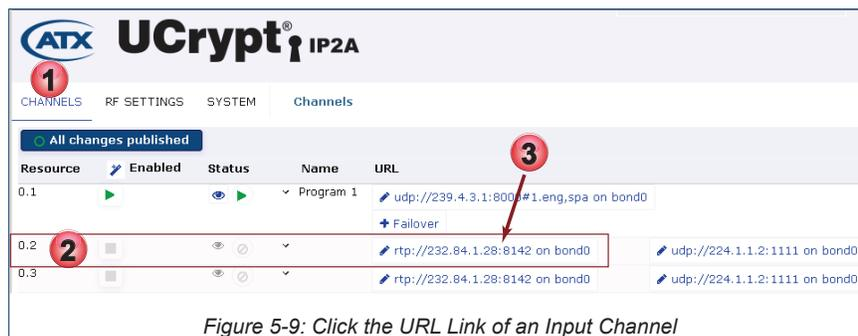

Figure 5-9: Click the URL Link of an Input Channel
1. Click the **Channels** tab if it is not already selected, Figure 5-9.